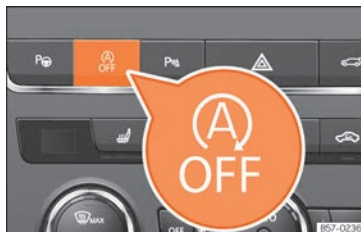

Fig. 150 Centre console: Start-stop system button.
- To manually switch on/off the Start-Stop system, press the  button »» **Fig. 150**.